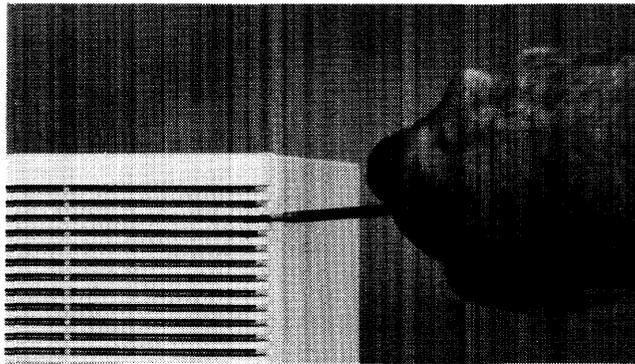

Figure 2-10. Releasing the Front Panel Catches
1. Using a thin blade flat-tip screwdriver, release the front panel catches on the right and left sides by pressing them inward as shown in Figure 2-10.